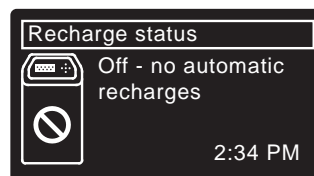

FIG. 47
6. Press the LEFT (◀) button (twice from the Recharge status screen) to return to the rolling status screens. If **Recharge off** was selected, the normal sequence of rolling screens will stop at the screen shown in Figure 47.